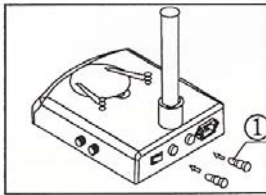

Fig. 13
- 1) Screw the fuse tube out with a screwdriver and then pull the fuse out of the tube ①.
- 2) Renew the fuse and mount it in an adverse way. (Fig.13)